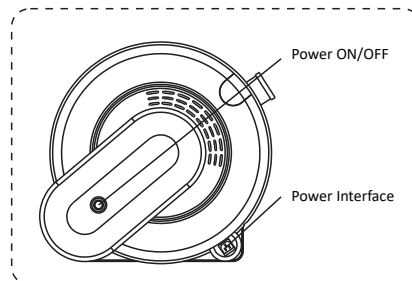

Figure 7.1.2
- One end of the power cord is plugged into the terminal board at the bottom support of the right side of the machine, and the other end into the socket of 220V / 50Hz with reliable grounding. See fig. 7.1.2.
- The power switch is located at the batter brace of the right side of the machine. See fig.7.1.2. It is the on/off switch of AEOLUS UC-1805 ICU. INCBATOR. When it is locked, all other keys are void; when it is unlocked, all other keys are valid.